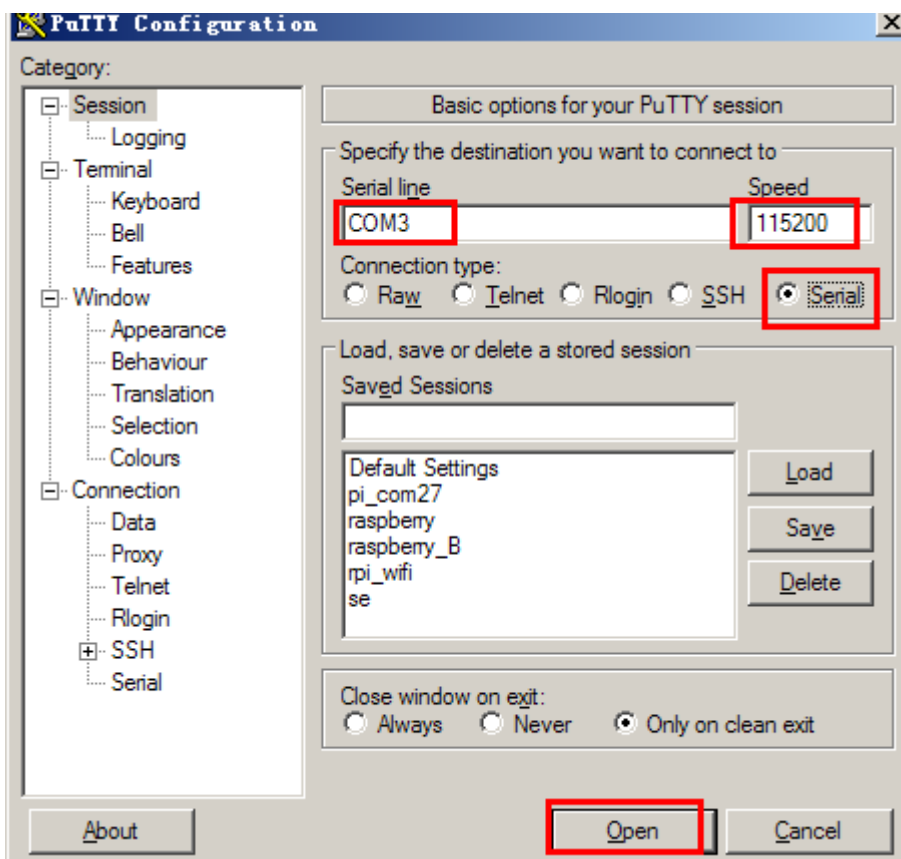

Figure 3: PuTTY settings
- 4) Start software/putty.exe, and configure the following parameters marked with red boxes shown in Figure 3.
- Speed: it is used to set the Baud rate: 9600 (Notices: the parameter Speed in here is set to 9600, differently from the configuration shown in Figure 3).